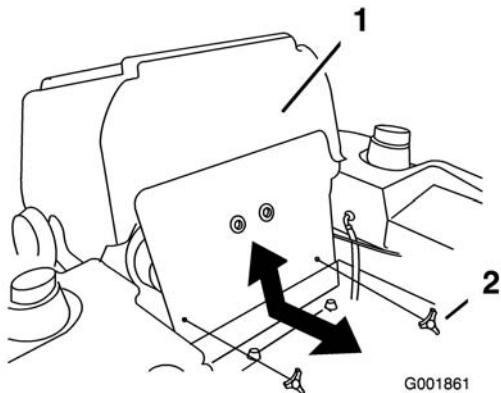

Figure 66
- Tilt the seat forward and remove the front engine panel (Figure 66).
7. Install the front engine panel (Figure 66).